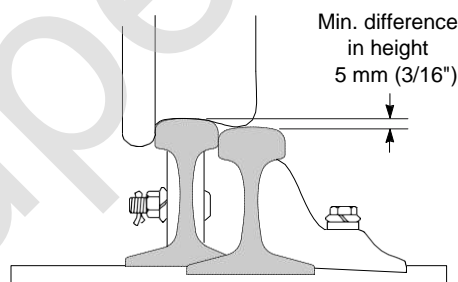
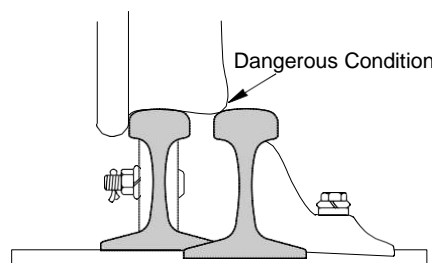

Figure 2.1
Figure 2.2
1. The running surface of a switch point at "the separation of heads" must be at least 5mm (3/16") above the stock rail (Figure 2-1) and the tip of the switch point must not be less than 13mm (1/2") below the top of the stock rail. A new stock rail installed adjacent to a worn switch point can cause a derailment (Figure 2-2).